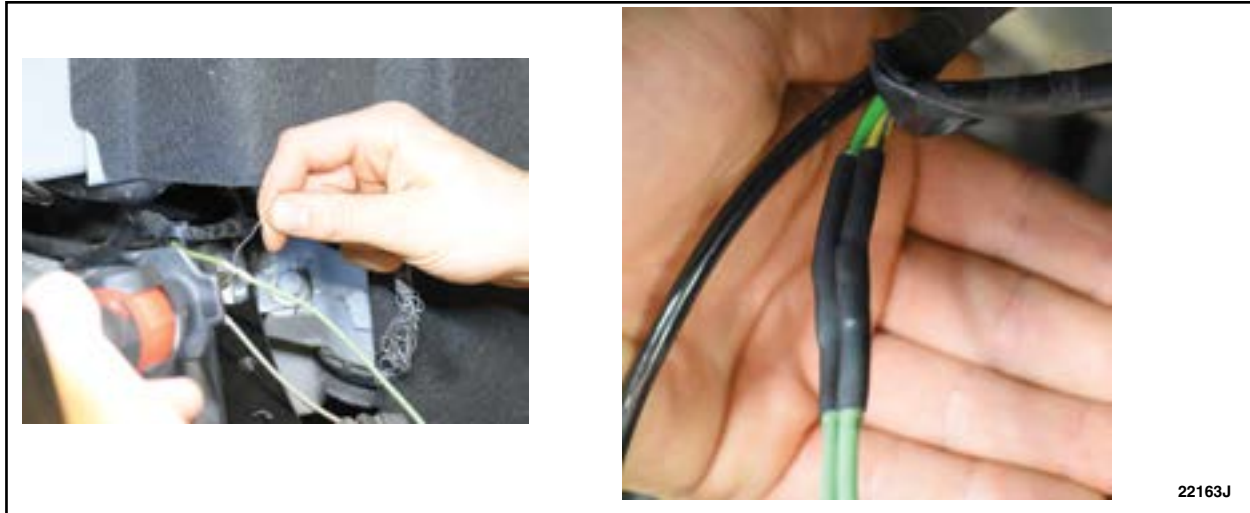

FIGURE 9
12. Replace the connector following the repair procedures in Cell 005 of the Wiring Diagrams on Professional Technician System (PTS), using the butt connectors and shrink tube contained in the repair kit. See Figure 9.